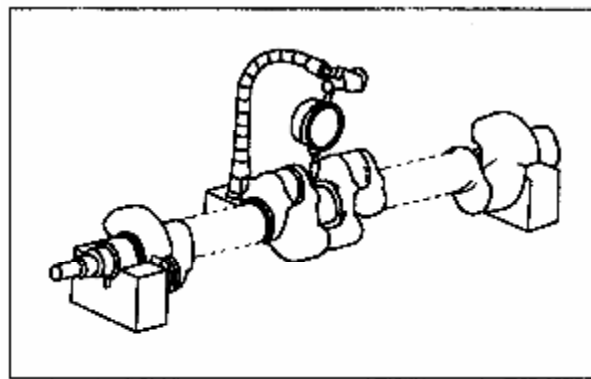

Figure 3-28 Check Crankshaft
3.2.10 Follow Figure 3-28 to check run-out of main journal at middle of crankshaft (the maximum run-out is 0.06mm). If the run-out exceeds the maximum value, replace the crankshaft.